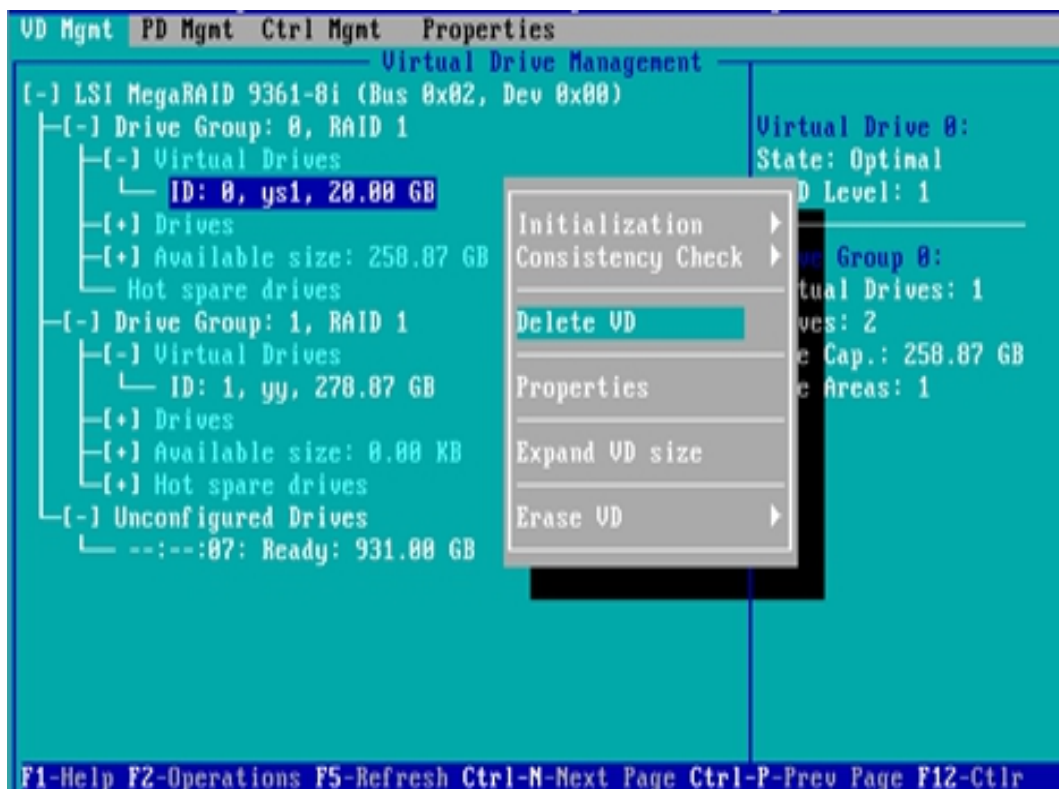

Figure 6-119
- b) Enter the interface shown in figure 6-119, select Delete VD and press enter.
✧ Figure 6-119 select Delete VD